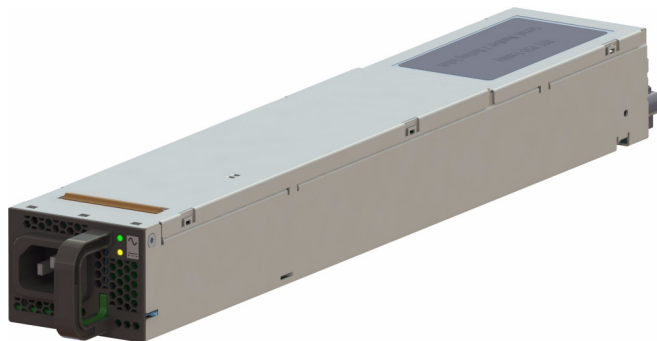

Figure 1-13 Power Supply Module (rated at 1100 Watts)
- Up to four power supplies (two redundant) (Figure 1-13);